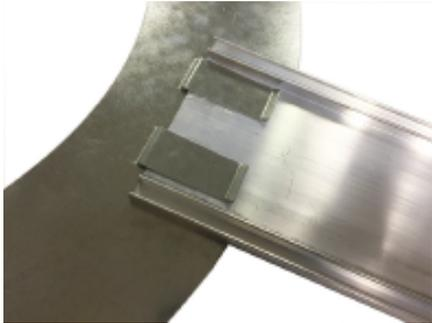

Figure 1. **Primary roof drainage. DT-RFDR-6: Flat Roof Drain Hub with 6 Rays**
3. Once the cable is installed in the rays, flip the assembly over and mount it over the drain. Attach drain cover per manufacturer's installation instructions. (See Figure 1)